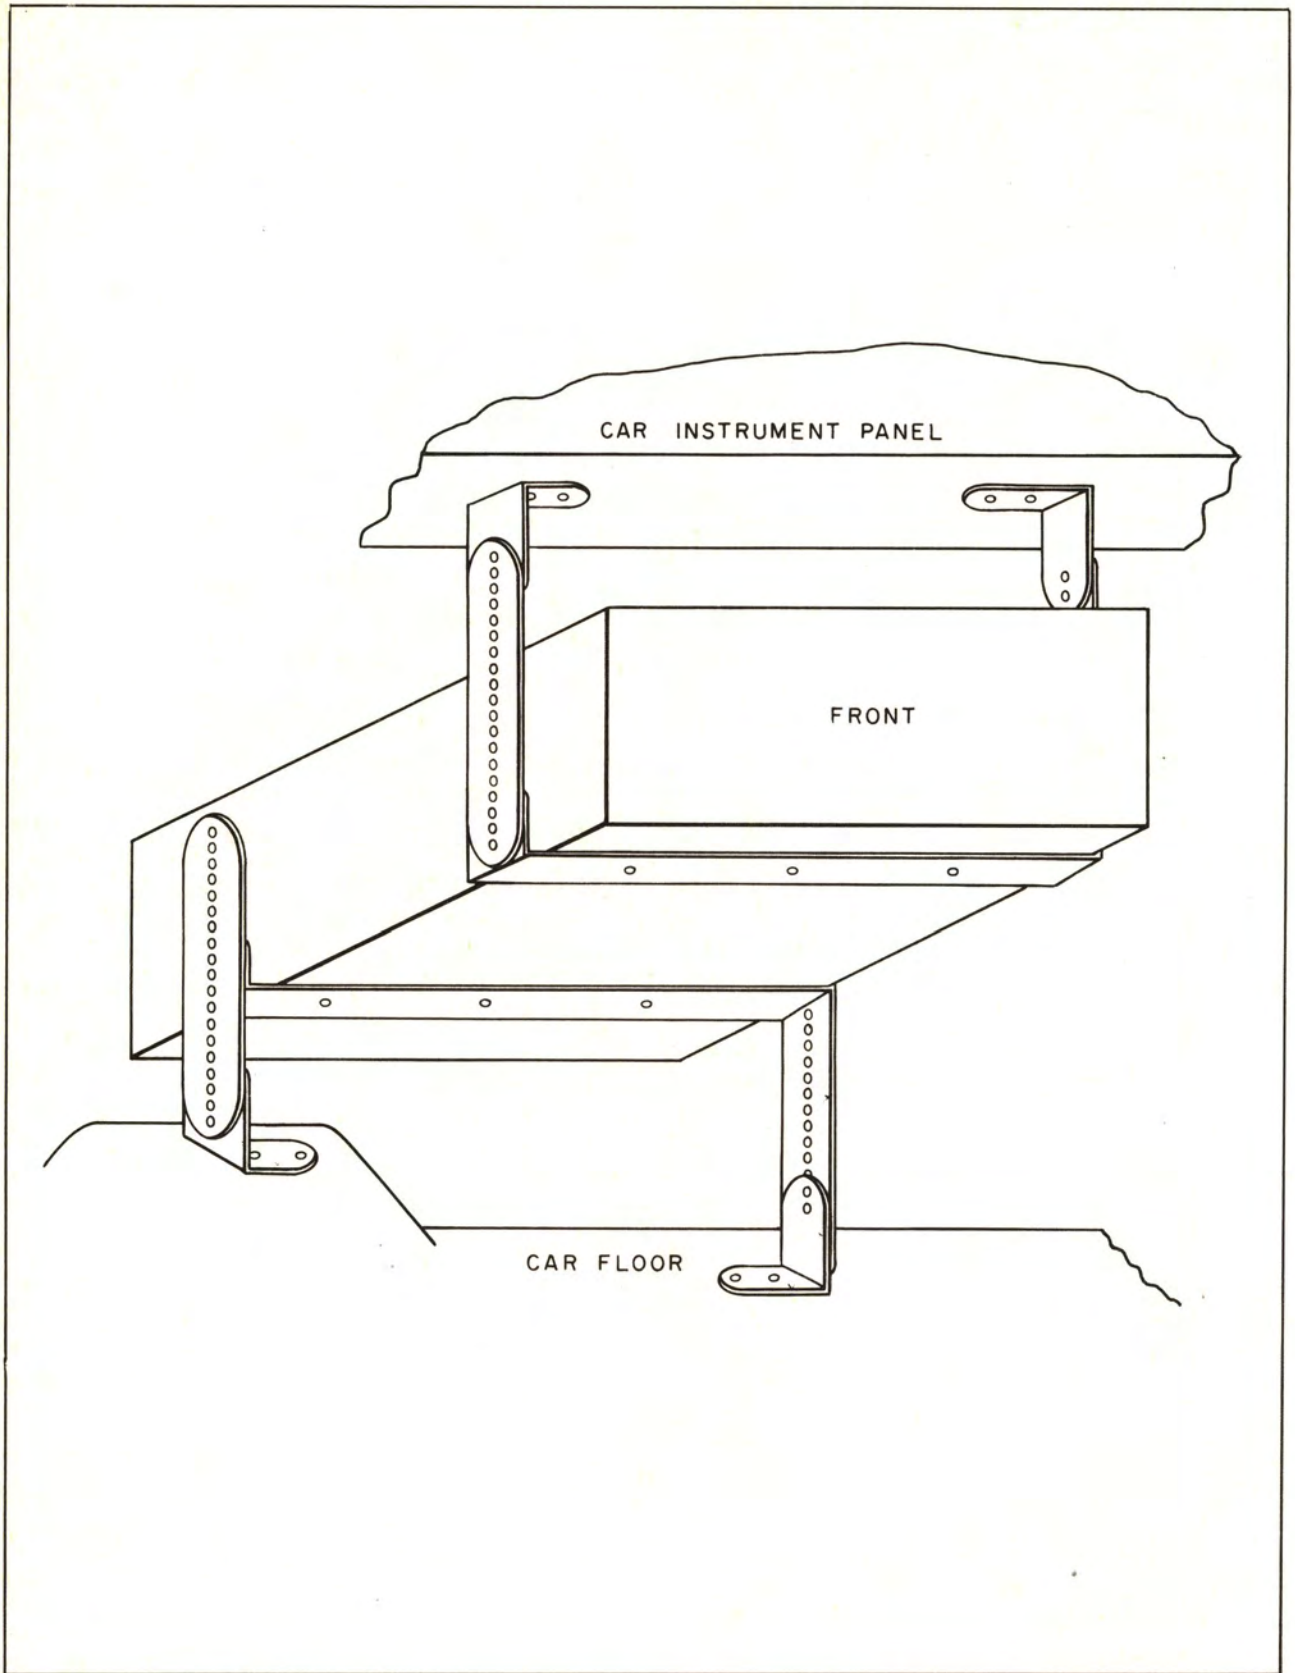

Figure S-4—Mounting Diagram, Dash Mount Installation
In equipment intended for dash mounting the T-R unit is supplied with the control unit mounted on the front panel, and a set of brackets, braces, straps, and hardware is provided to permit mounting the unit beneath the dashboard. Details of the installation are shown in figure S-4. To mount the unit proceed as follows:
5. Place the assembly in the desired position as shown in figure S-4 with the top brackets against the bottom of the dashboard and the bottom brackets on the floor. Adjust the height of the straps by moving the screws to adjacent holes until the assembly fits the available space. If desired cut the straps to the required length. It may be necessary to place the chassis of the T-R unit on the base, and the top cover on the chassis to make certain that the adjustment is satisfactory. Note that the rear brace pivots with respect to the rear straps to permit tilting the unit to the desired angle.